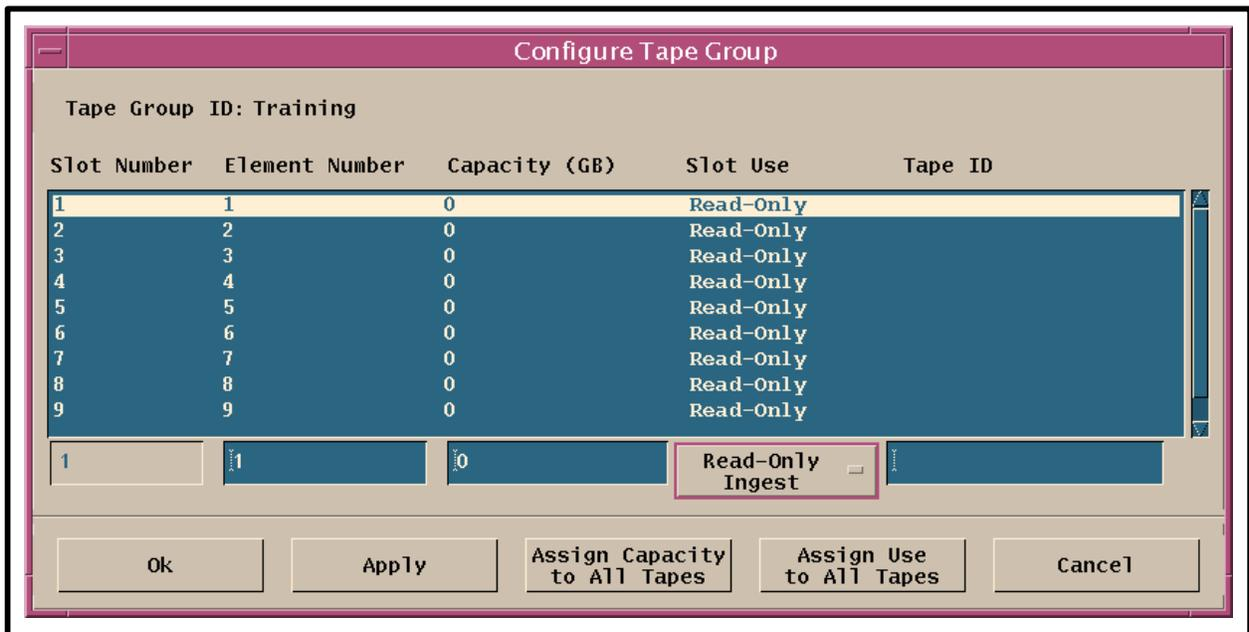

Figure 15. Configure Tape Group Window
- The **Configure Tape Group** window (Figure 15) is displayed.